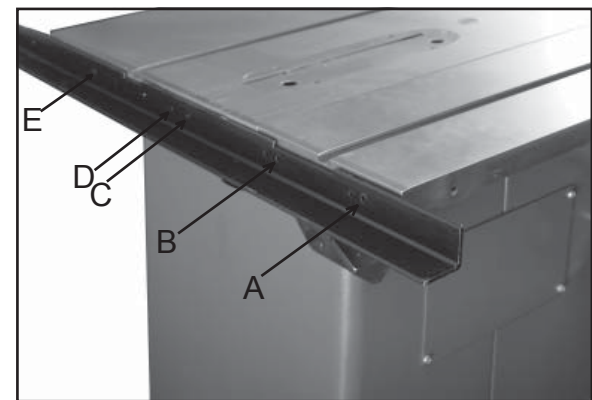

Figure 7
1. Identify the rear fence rail, which is the smaller “L” shaped bar. Place against the table and align as shown. Figure 7.